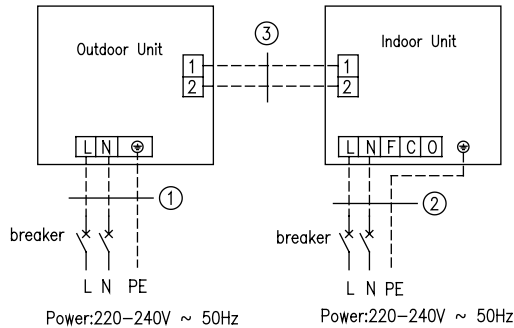

Fig.42
- ① . The power cord and the wire of the fresh air valve are high-voltage, while the communication cord and connection wire of the wired controller are low-voltage. They should run separately against electromagnetic interference.
- ② . The high-voltage and low-voltage lines should pass through the rubber rings at different electric box covers.
- ③ . Do not bundle the connection wire of the wired controller and the communication cord together, or arrange them in parallel, otherwise improper operation would occur.
- ④ . The high-voltage and low-voltage lines should be fixed separately and securely, with internal big clamps for the former and small clamps for the latter.
- ⑤ . Tighten the indoor/outdoor connection cord and power cord respectively on the terminal boards with screws. Faulty connection may cause a fire.
- ⑥ . If the indoor unit connection cord (to the outdoor unit) and power supply are wired incorrectly, the air conditioner may be damaged.
- ⑦ . Connect the indoor unit connection cord properly based on the corresponding marks as shown in Fig. 42.
- ⑧ . Ground both the indoor and outdoor units by attaching a ground wire.
- ⑨ . Unit shall be grounded in compliance with the applicable local and national codes.